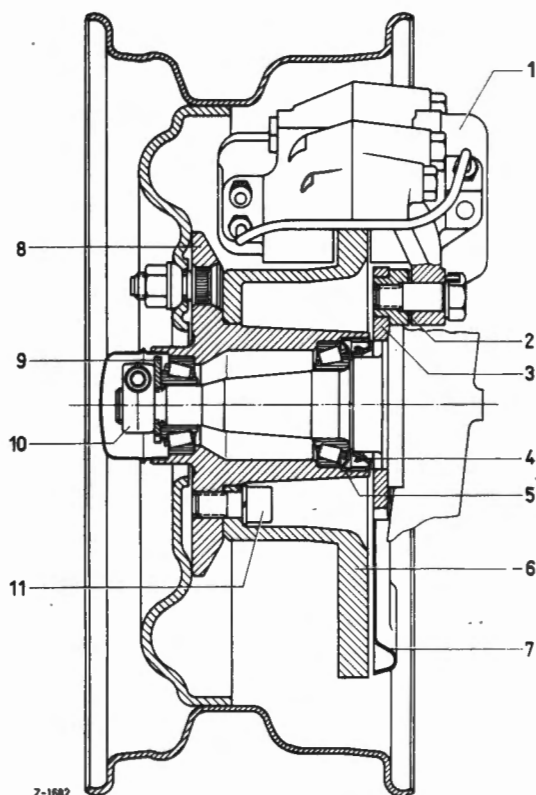

Fig. 42-11/1
3. Fix the front wheel hub in Fixture 136 589 0531 and unscrew the hexagon socket screws (11) fixing the brake disk (6) to the front wheel hub (8) (Fig. 42-11/1).
4. Check the brake disk for scores and replace if scoring is excessive (Figs. 42-11/2 and 3).
Note: Since the brake disk is not protected against the influence of dust and dirt, scores are liable to occur after short runs of a car. Such concentric scores have no negative influence on braking action. The brake disk need only be replaced if the scoring is excessive i. e. if the scores have a depth of approx. 0.5 mm (Fig. 42-11/2).